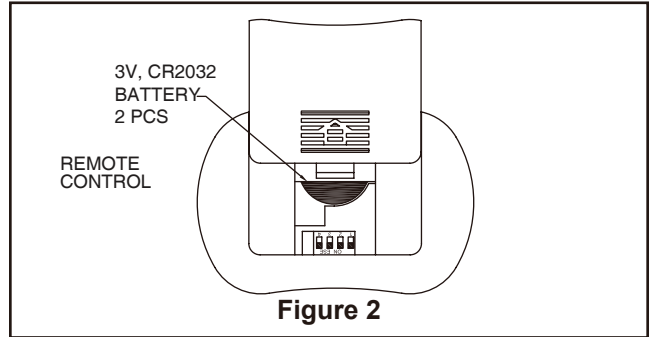

Figure 2
2. To make fan operational, install the two 3-volt batteries in hand-held remote transmitter, (if not using for long periods of time, remove batteries to prevent damage to transmitter). Store the remote away from excessive heat or humidity (Figure 2).